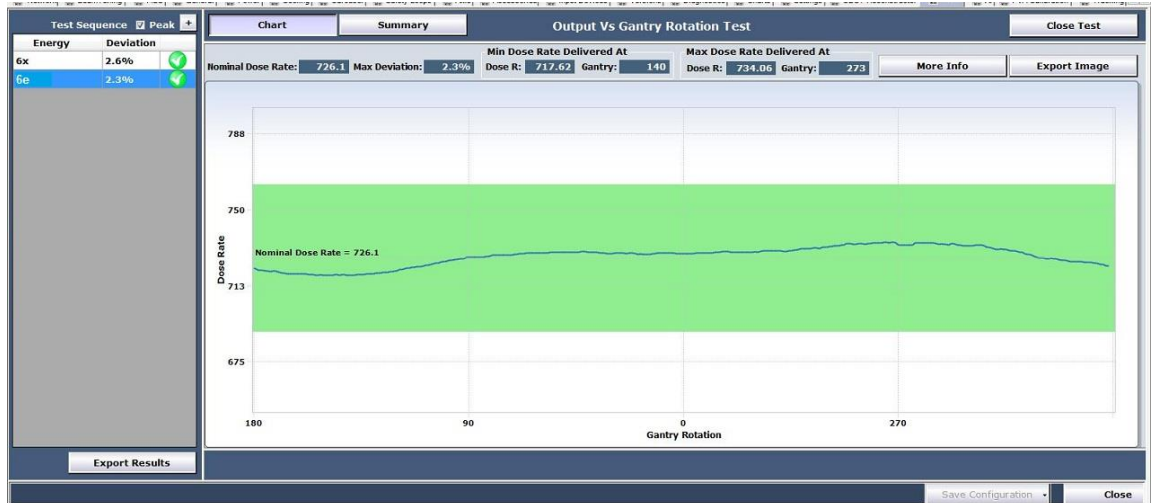

Figure 16: Output Vs Gantry Rotation Test Result
9. When completed, the application will stop the beam the result will be displayed on the screen. (see Figure 16)